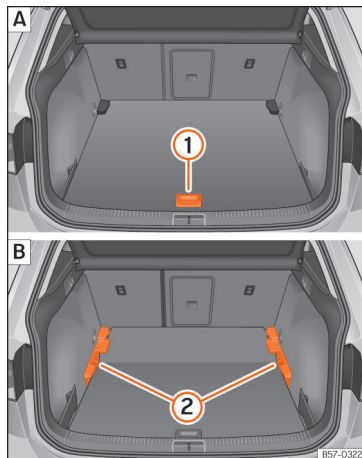

Fig. 173 Variable luggage compartment floor:
- To move from the low position to the high position, lift the floor using the handle »» Fig. 173 ①, and pull it back until the front of the floor has fully passed the supports ②.
- Move the floor forward over the supports as far as the rear seat backrest and then lower the floor with the handle ①.
- To move from the high position to the low position, lift the floor using the handle »» Fig. 173 ①, and pull it back until the front of the floor has fully passed the supports ②.
- Now let the front part fall to the floor and slide the floor forwards as far as the rear seat backrest; lower the floor at the same time with the handle ①.
- Lift the variable floor in the high position using handle »» Fig. 173 ①, pull it up and push it towards the backrest of the rear seats until it folds along the hinge line and the movable part of the floor is resting on itself.
- To move from the high position to the low position, lift the floor using the handle »» Fig. 173 ① and pull it back a little.
- Push the variable floor towards the folded rear seats with the handle ① using some downward pressure so that the moving part of the floor is flush with the backs of the rear seats.